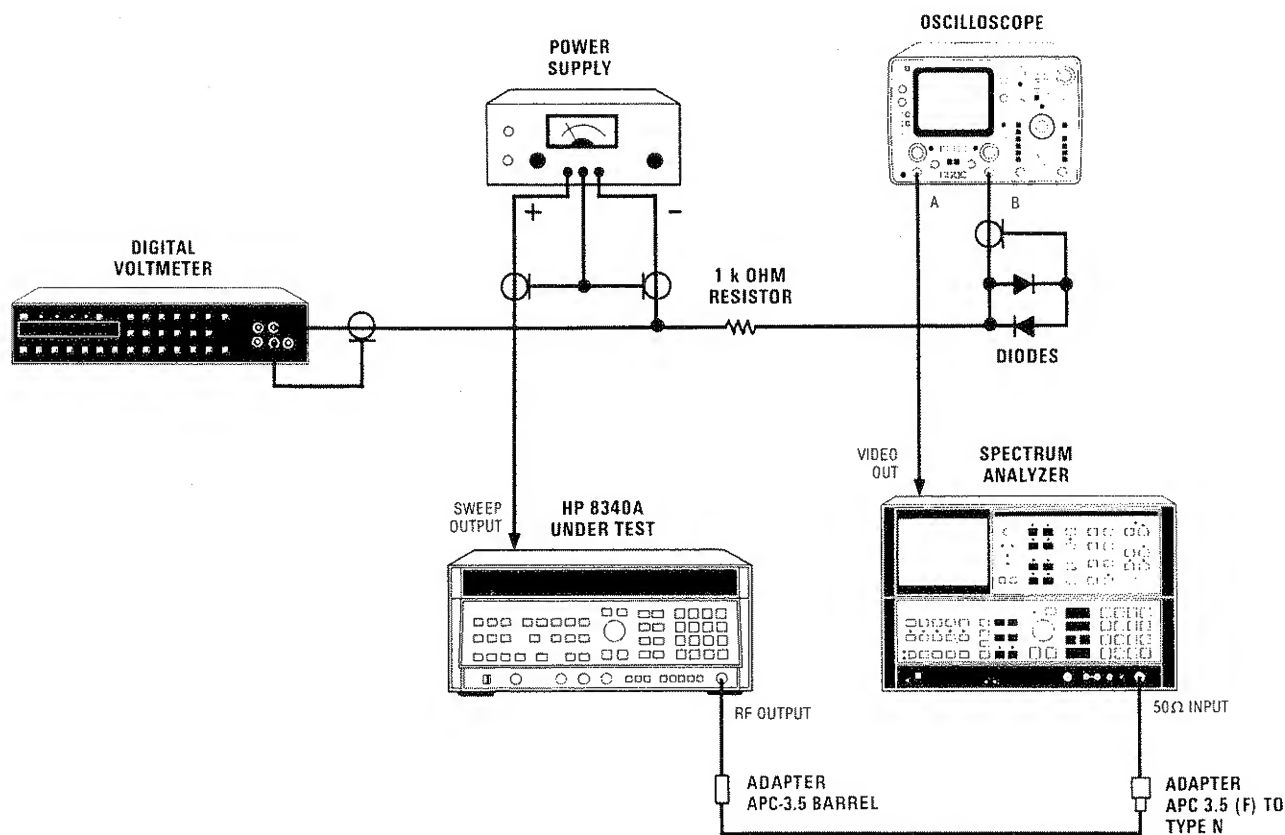

Figure 4-4. Swept Frequency Accuracy Test Setup
1. Connect the equipment as shown in Figure 4-4 (with the power supply output set to 0 Vdc). Allow the equipment to warm up for one hour.